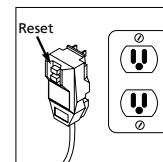

Figure 7 - Grounded plug/reset button
5. Plug the power cord into a grounded 120V outlet and press the reset button as shown in figure 7. **THIS MUST BE DONE EACH TIME THE UNIT IS PLUGGED INTO AN OUTLET.**